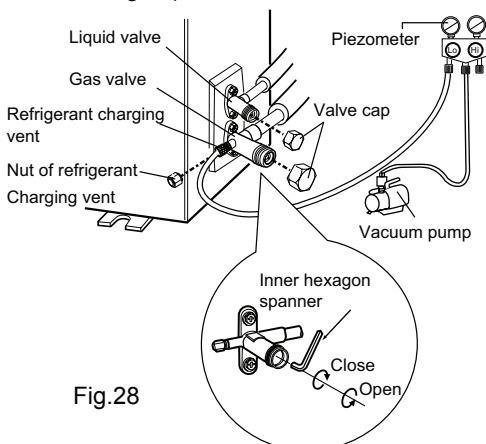

Fig. 28
- (1) Remove the valve caps on the liquid valve and gas valve and the nut of refrigerant charging vent.
- (2) Connect the charging hose of piezometer to the refrigerant charging vent of gas valve and then connect the other charging hose to the vacuum pump.
- (3) Open the piezometer completely and operate for 10-15min to check if the pressure of piezometer remains in -0.1MPa.
- (4) Close the vacuum pump and maintain this status for 1-2min to check if the pressure of piezometer remains in -0.1MPa. If the pressure decreases, there may be leakage.
- (5) Remove the piezometer, open the valve core of liquid valve and gas valve completely with inner hexagon spanner.
- (6) Tighten the screw caps of valves and refrigerant charging vent.(As show in Fig.28)